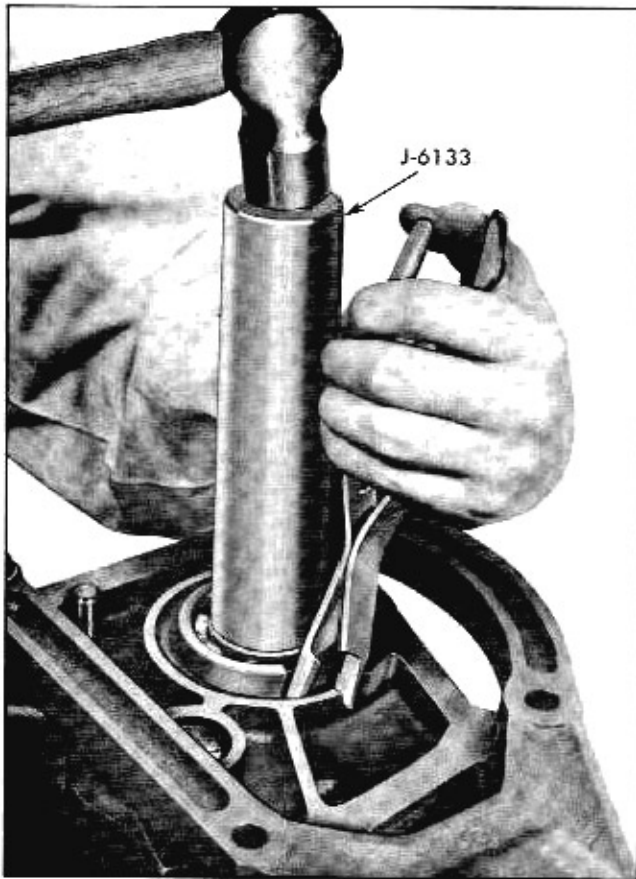

Fig. 7-47 Installing Mainshaft Bearing
22. Install mainshaft bearing with ring groove toward case and, with the retainer ring expanded, drive the bearing onto mainshaft with tool J-6133 (Fig. 7-47).